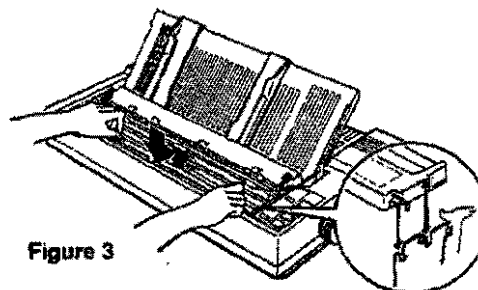

Figure 3
5. Hold the new ribbon cartridge by the handle and firmly insert it into place, making sure that the plastic hooks fit into the slots as shown below (Figure 3).